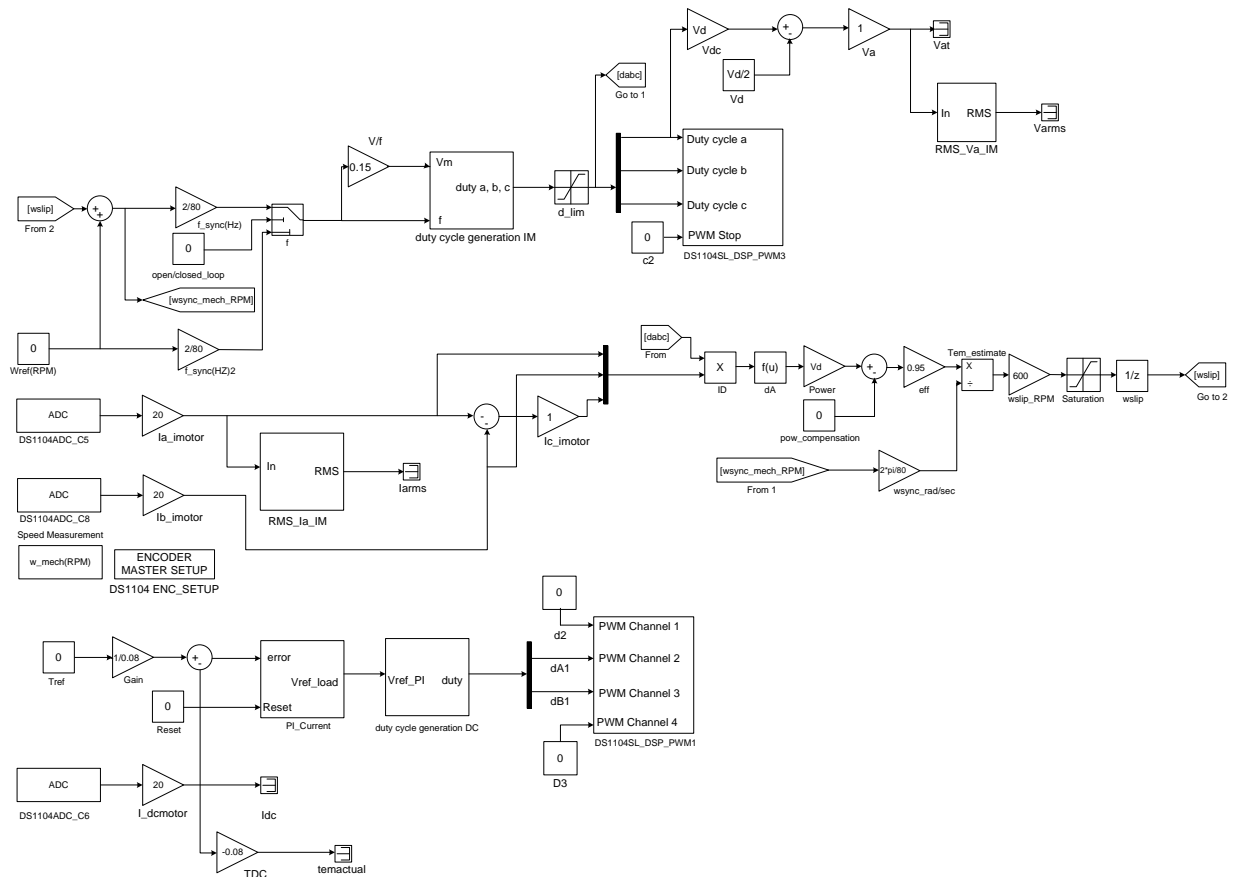

Figure 9.4: IM Speed Control Simulink Block
- Open file **im_speed_control.mdl** as shown in Fig 9.4. Build this file (Ctrl+B). Open dSpace ControlDesk and open variable file **im_speed_control.sdf** and then open layout file **im_speed_control.lay**.